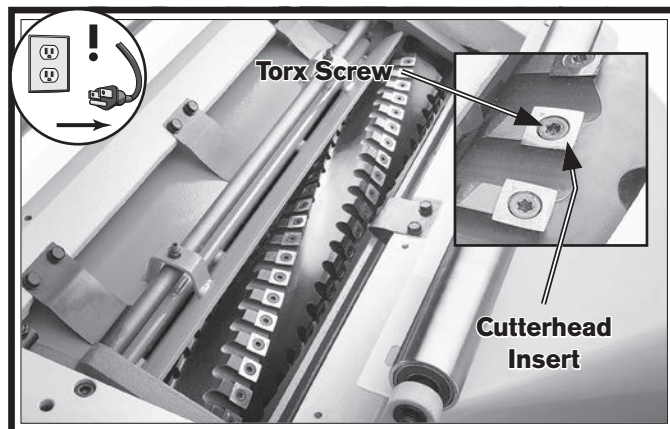

Figure 30. Example of cutterhead inserts and Torx screws.
3. Remove any sawdust or debris from head of insert, Torx screw, and surrounding area (see Figure 30).